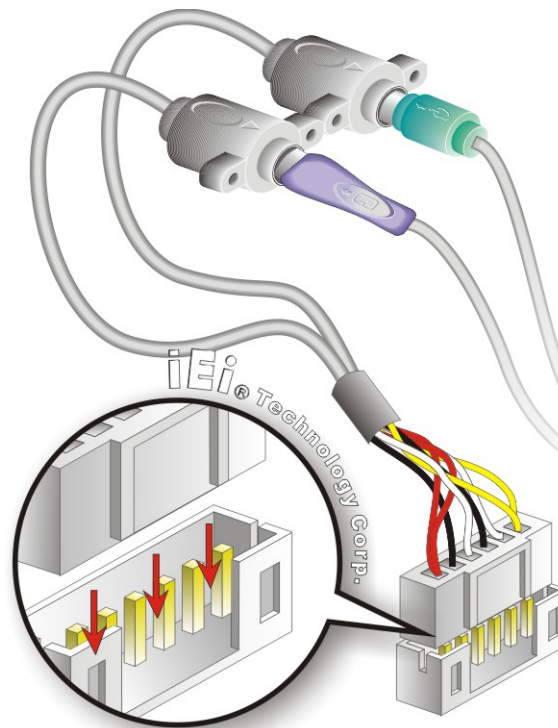

Figure 4-18: Keyboard/mouse Y-cable Connection
- Step 2: Align the connectors.** Correctly align pin 1 on the cable connector with pin 1 on the WAFER-CV-D25501/N26001 keyboard/mouse connector. See **Figure 4-18**.
- Step 3: Insert the cable connectors** Once the cable connector is properly aligned with the keyboard/mouse connector on the WAFER-CV-D25501/N26001, connect the cable connector to the on-board connector. See **Figure 4-18**.